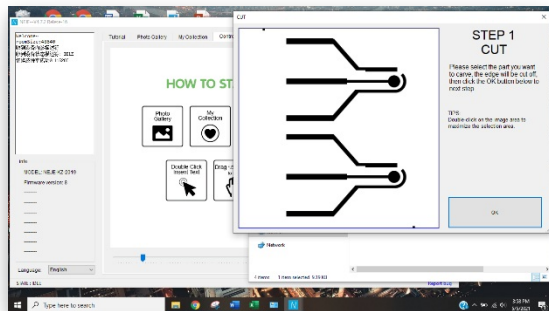

Figure 2C
h. Open the folder containing the picture "Three electrodes design x 2" and drag it to the NEJE software. Double click on the picture to make sure that the picture will be scribed completely (shown in *figure 2C*). Then press "Ok." Press "Ok" in step 2.